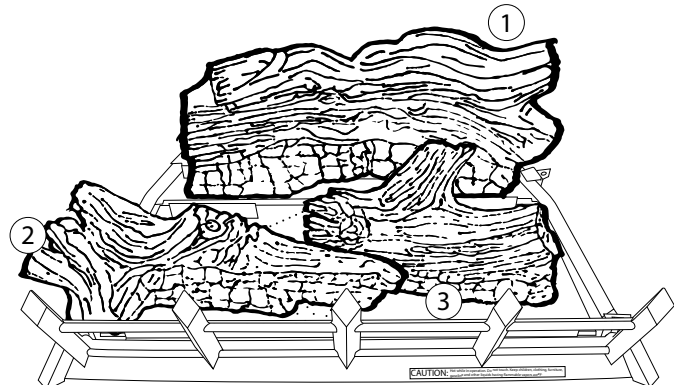

Figure 45
3. Place the front center log (#3) on the pin located on the right side of the burner. (See Figure 45.)